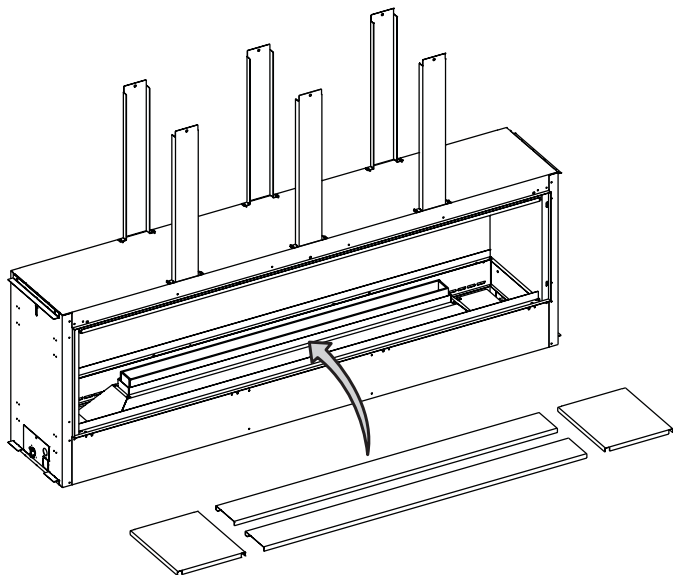

Figure 63
4. Install the burner screens as shown in **Figure 63**. If installing an optional log set, refer to the log set instruction manual for placing the log pins into the burner screens.